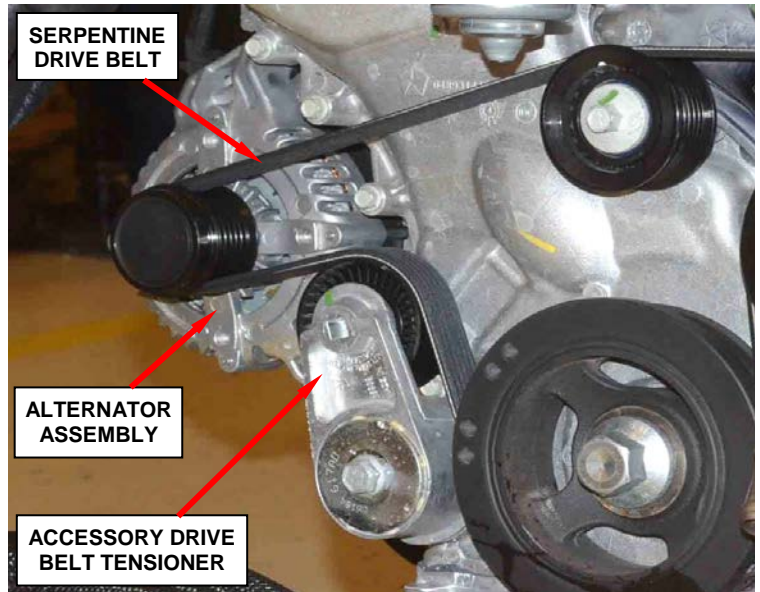

Figure 8 – Accessory Drive Belt Tensioner
2. Rotate the accessory drive belt tensioner counterclockwise until it contacts its stop and remove the accessory drive belt, then slowly rotate the tensioner into the free-arm position (Figure 8).